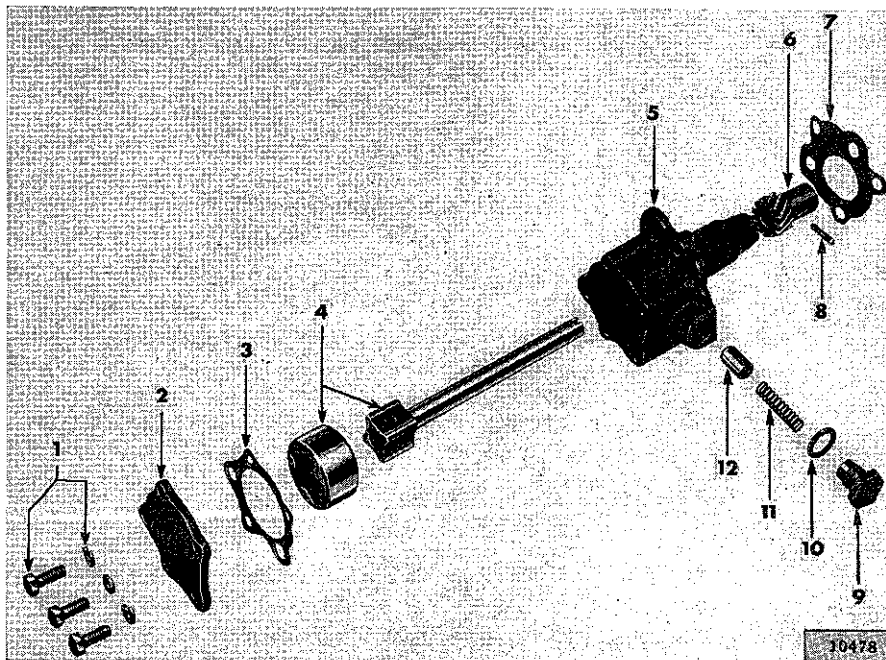
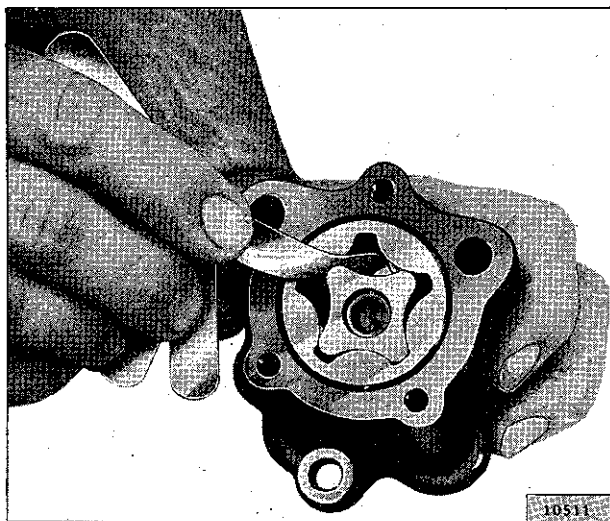

FIG. 117—OIL PUMP
FIG. 118—CHECKING OIL PUMP ROTORS
within the pump body. An oil relief valve is mounted in the pump body which controls the oil pressure. To disassemble the pump, Fig. 117, first remove the gear which is retained by straight pin (8). It will be necessary to file off one end of the pin before driving it out with a small drift. By removing the cover (2) the outer rotor and the inner rotor and shaft (4) may be removed through the cover opening. Failure of the pump to operate at full efficiency may usually be traced to excessive end float of the rotors or excessive clearance between the rotors. The clearance between the outer rotor and the pump body should also be checked. Match the rotors together with one lobe of the inner rotor pushed as far as possible into the notch of the outer rotor. Measure the clearance between the lobes of the rotors as shown in Fig. 118. This clearance should be .010" [0,254 mm.] or less.
Pump output is controlled by a pressure relief valve, Fig. 117, No. 12.